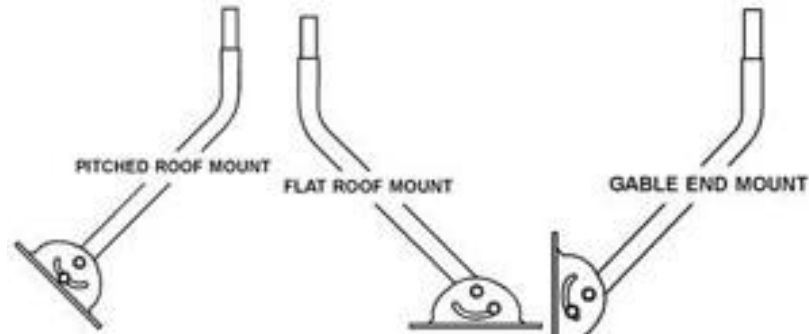

Figure 2
Reference Figure 2. There are three typical mounting configurations (1) pitched roof mount (2) flat roof mount (3) gable end mount (horizontal).